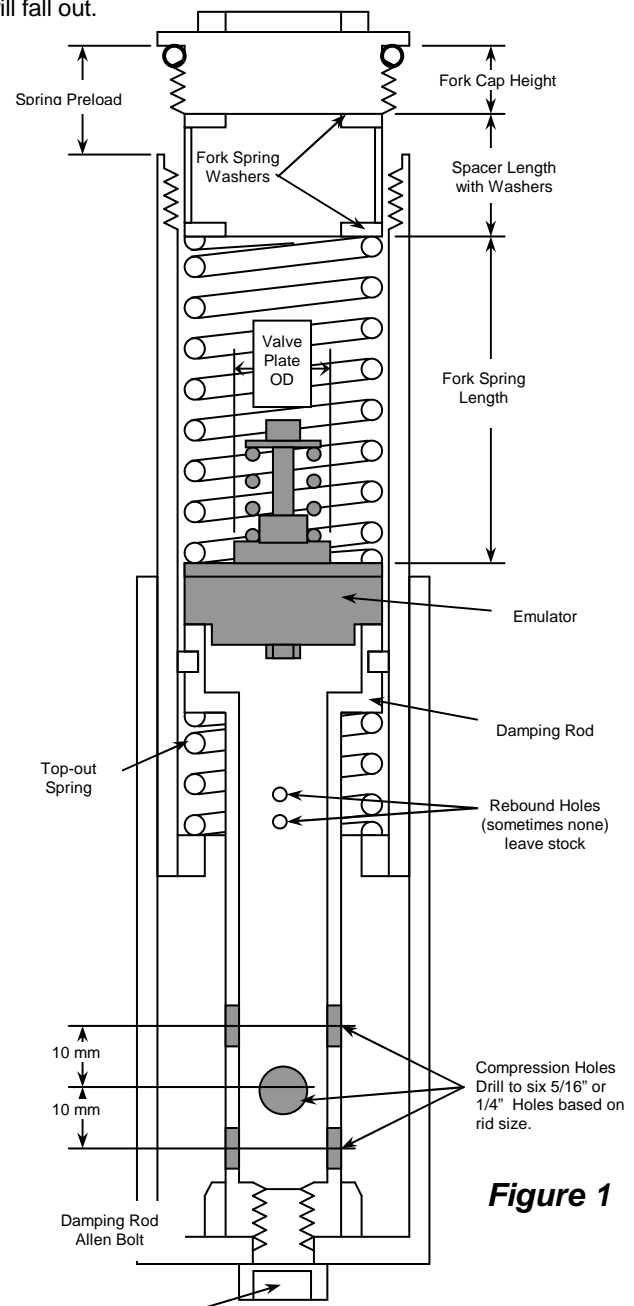

Figure 1
2 **Check the fit of the Gold Valve Emulator** by placing it on top of the damping rod. The step on the Emulator must sit into the large hole in the top of the damping rod and must completely cover it so there is no blow-by (figure 1). Do NOT machine down Emulator for fitment!
b) Check the inner diameter of the fork spring must be at least 4 mm (0.160") larger than the Emulator Valve Plate itself for proper flow (figure 1).
3 **Drill the existing compression holes in the damping rod to 5/16 inch (8 mm) and add additional 5/16" OR 1/4" (6mm based on damping rod size) holes so you end up with six holes (3 sets of 2 holes) (figure 1).** When drilling new holes, space them axially (lengthwise) at 10 mm (7/16") increments. Each set of two holes must be perpendicular to the last set so as not to weaken the rod (figure 1). After drilling, chamfer and deburr the compression holes, inside and out. Do not add or enlarge the rebound holes and leave their edges sharp if any exist.
- Drop the Emulator down the tube. It sits on top of the damping rod with the Emulator Valve Spring facing up and is held in place with the main fork spring. Refer to figure 1. Visually check to make sure the Emulator is sitting squarely on top of the damping rod or the adapter.
- Set the fork cap on the washer and determine the preload by measuring from the top of the fork tube to the sealing lip on the fork cap (see figure 1). This is a direct measurement of fork spring preload. Shorten the spring spacer tube to achieve the proper preload.